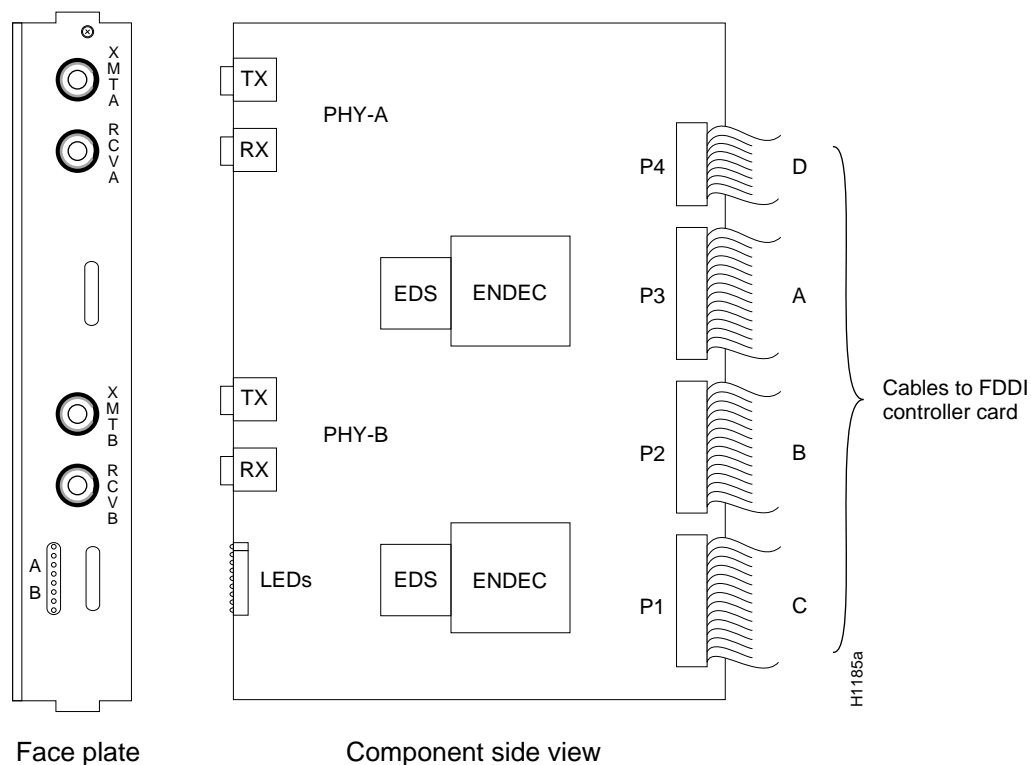

Figure 5 Single-Mode/Single-Mode Applique—APP-LSS
- PHY-A single mode, PHY-B single mode (APP-LSS), Figure 5